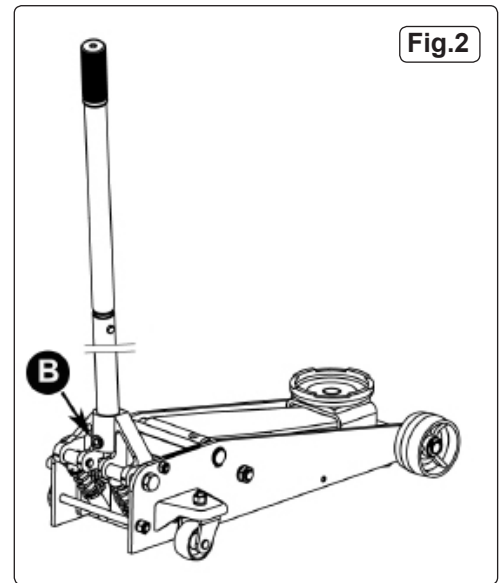

Fig.2
- 4.2. Undo the handle socket screw (B) until it no longer protrudes into the handle socket (Fig.2).